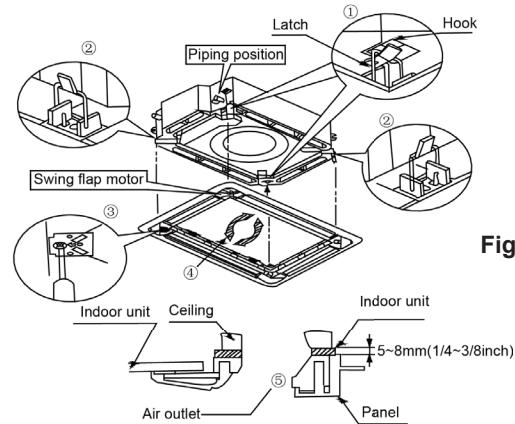

Fig.8
(2) Place the panel at the unit, and latch the hooks beside and opposite the swing flap motor.
(3) Latch other two hooks.
(4) Tighten four hexagonal screws under the latches about 15mm.
(5) Adjust the panel along the direction indicated by the arrow as shown in Fig.8.
(6) Tighten the screws until the thickness of the sealing material between the panel and the indoor unit reduces to 5-8cm.